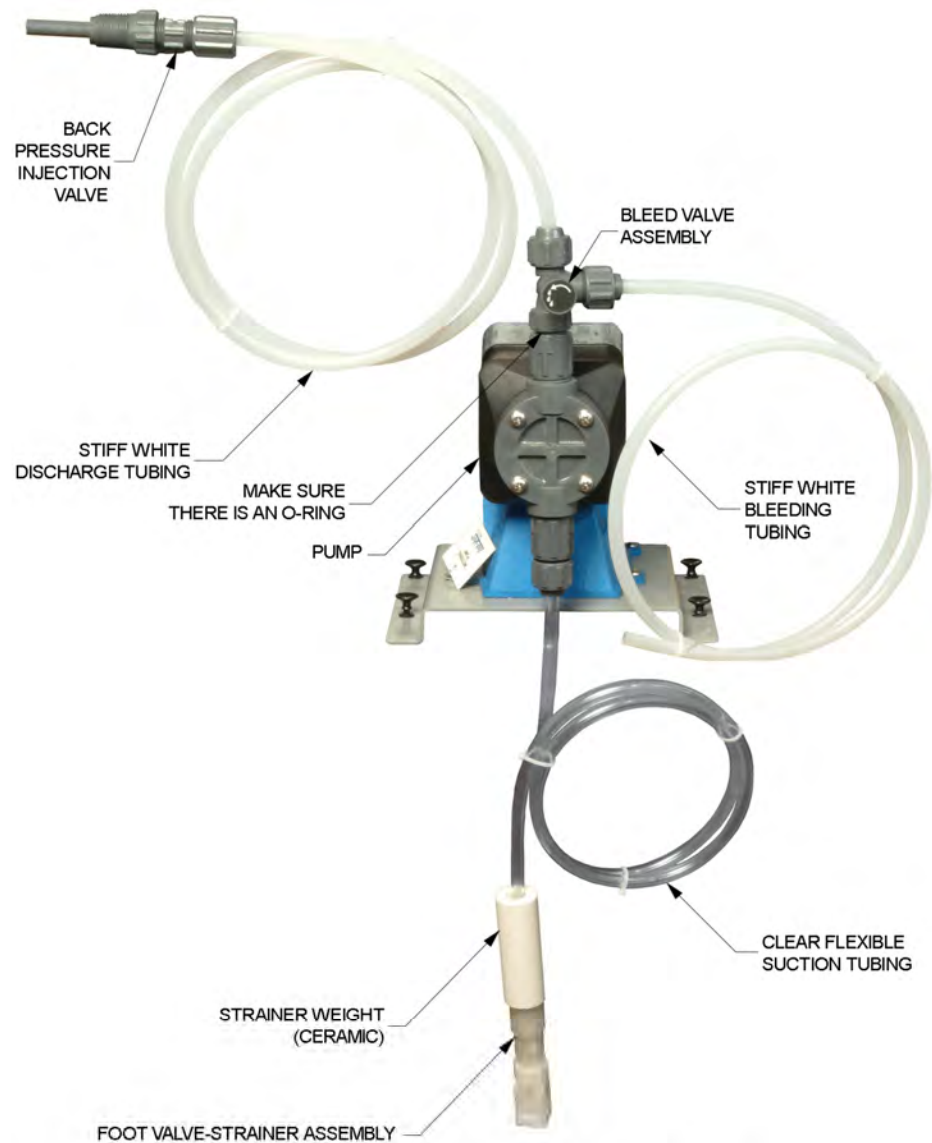

Figure 1-4. Pumping circuit using the Metering Pump.
- 11. Set up the circuit shown in Figure 1-4.